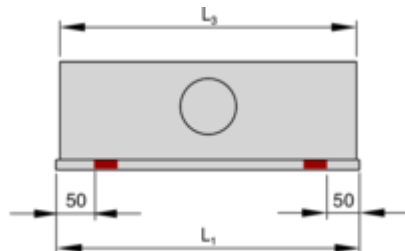

Fig. 16: Front rail length = plenum box length
3. Check and position the fixing material in the groove, positioning according to Figure Fig. 13 to Fig. 16.